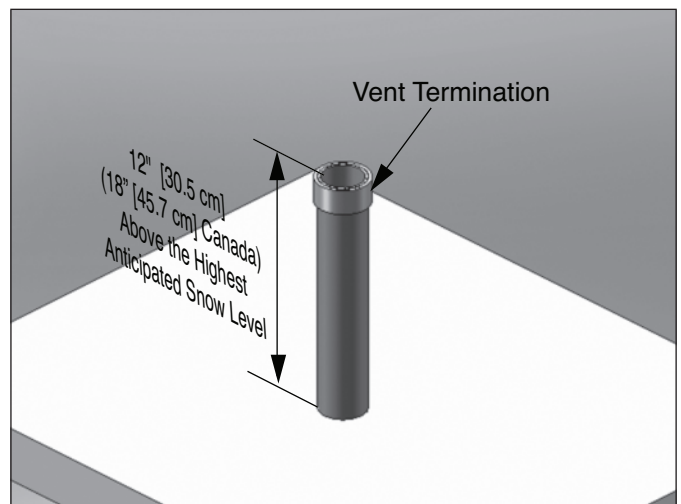

Fig. 23: Category - IV - Vertical Termination of Vent Pipe
3. The vent must terminate vertically with a coupling and must be located 12" [30.5 cm] (18" [45.7 cm] Canada) above the highest anticipated snow level as shown in Fig. 23.
3. Locate the vent pipe penetration to provide clearances as described in Fig. 23 page 26.
3. The vent piping must terminate vertically with a coupling as shown in Fig. 23 page 26.
Do not extend the vent pipe above the roof beyond the given dimensions shown in Fig. 23 page 26. Extended exposure of the vent pipe could cause condensate to freeze and block the vent pipe.